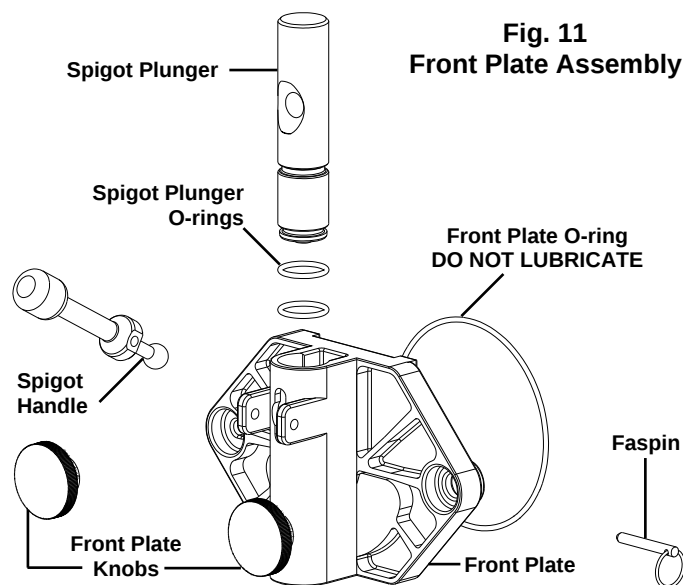

Fig. 11
5. Remove the front plate by turning the black plastic knobs in a counterclockwise direction (Fig. 11). Disassemble the front plate in the following manner:
6. The front plate for the high capacity series machines (Fig. 13) is disassembled in the same manner as the front plate shown in Fig. 11.